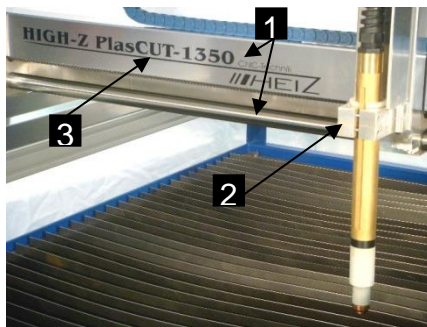

Figure 10a: Y-Carriage
- The two linear guides (Fig. 10a / 1) and the Trapezoidal Thread Spindle located on the Y-bridge (Fig. 10a / 3) and represent the Y-axis. Along the Y-Bridge is the tool holder (Fig. 10a / 2) which can be moved with a suitable tool (43H7 holder)